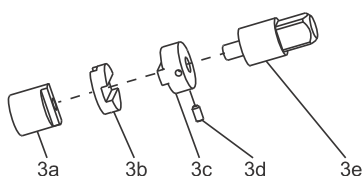

Fig. 3 Coupling
- Place the pump (1) on the console (10) and fix the screws (12) without fastening them.
- Fit the coupling section (3a) onto the adjusting spindle (2).
- Fit the lantern (4) using four screws (5).
- Insert the scale ring (7) and coupling section (3b) (carrier) through the side of the lantern. Push one coupling section (3b) onto the other coupling section (3a) so it is in the correct position (see fig. 3) and hold it in place with one hand.